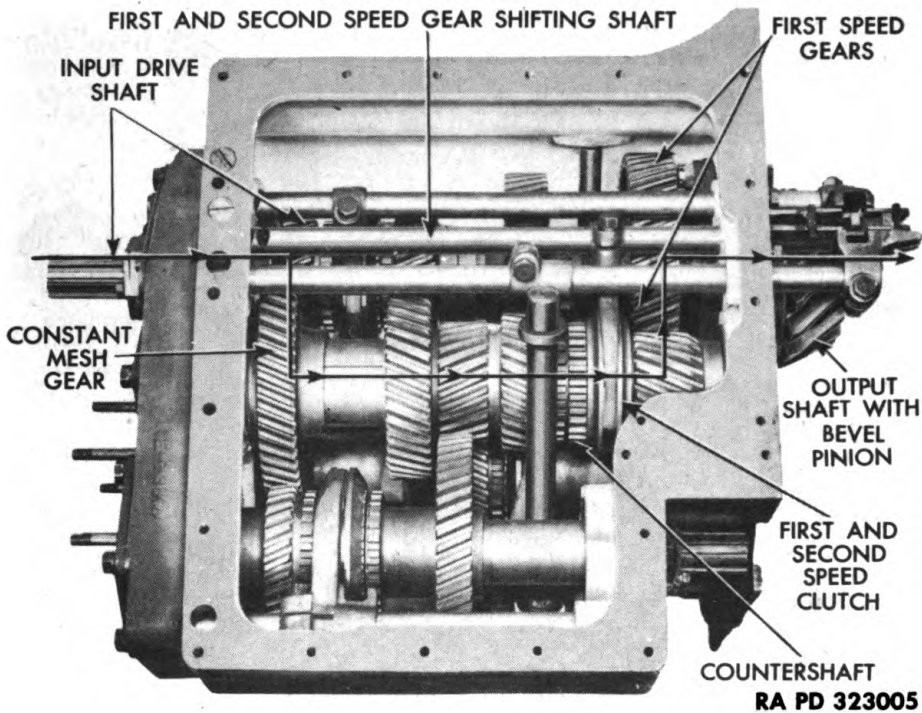

Figure 4 — Transmission in First Speed Gear
(2) **FIRST SPEED** (fig. 4). Power enters through the input drive shaft, and passes through the constant mesh gear to the countershaft. From the countershaft, power passes through the countershaft first and second speed gear clutch, and the two first speed gears, out to the output shaft with bevel pinion.